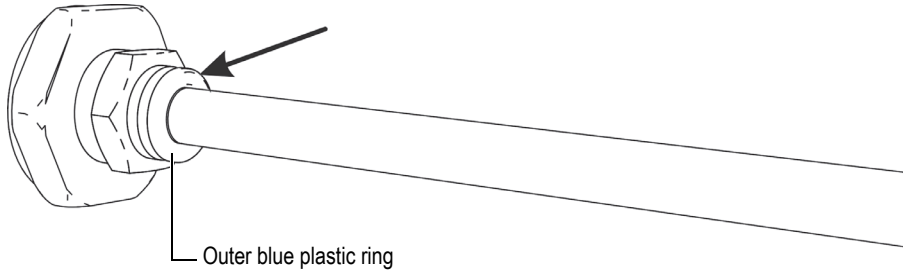

Figure 2-17 CFU05—Disconnecting the water suction tube
2. Push on the outer blue plastic ring of the connector to release the tube (see Figure 2-17 on page 41).